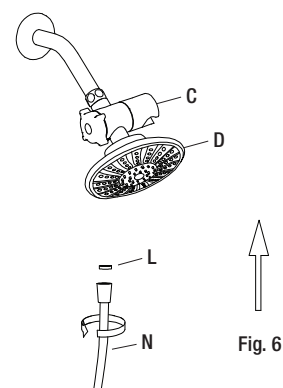

Fig. 6
4. Place a rubber washer (L) into the hexagon nut on the shower hose (N), and secure it to the 3-way valve (C), see Fig. 6.